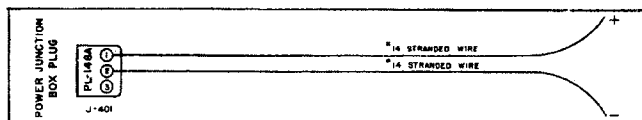

Figure 14. Power Junction Box-to-Circuit Breaker Cable
(6) POWER JUNCTION BOX-TO-CIRCUIT BREAKER CABLE.—This cable consists of two 14-gauge stranded wires. One end of the cable terminates in Plug PL-148A (3-pin). The other end should be fastened to circuit breaker provided for this set. (See fig. 14.)